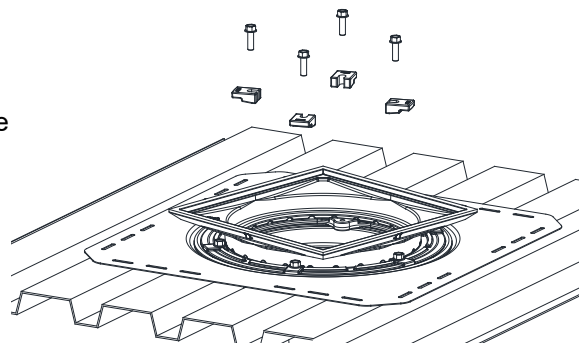

Fig. 4
Step 11 - Place the four clamp dogs on top of the bottom rim of the frame and align the slots in each clamp dog with the tappings in the clamping collar. (Fig. 4) Insert a bolt through each clamp dog slot and thread into the clamping collar. Hand-tighten the bolts until final alignment adjustments are made to the frame. Once the frame is in proper position, tighten the four clamp dog bolts down to a torque of 20-25 ft-lbs.